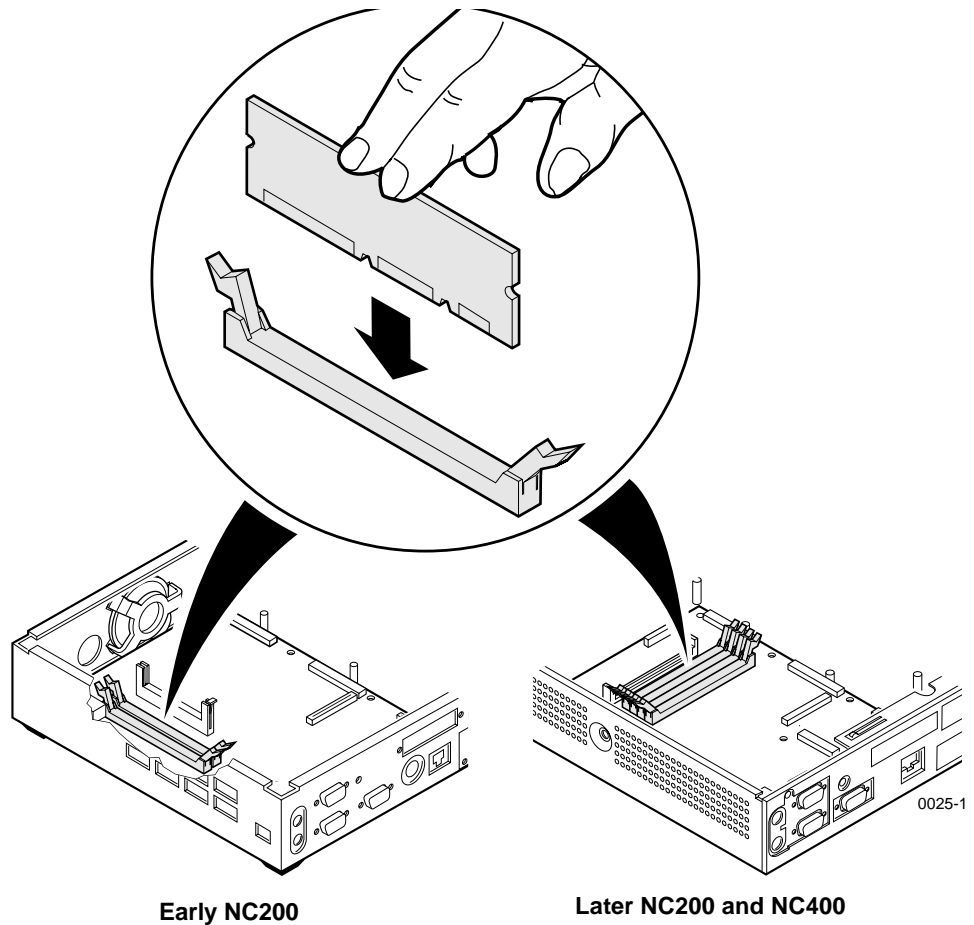

Figure 5. Expansion Memory Sockets
8. Plug the new memory board into one of the two (NC200) or four (NC400) DIMM sockets as shown in Figure 5. When the board is pressed into the socket, the latches will automatically close.